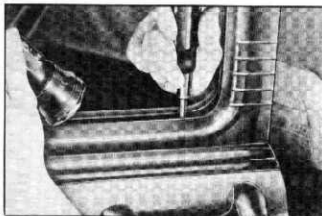

Fig. 46—1953 Free-Wheeling Adaptation
1. To adjust the free wheeling link on 1953 Chevrolet four-door styles, lower the rear door glass and insert a screw driver or suitable tool through the opening (fig. 46). The free wheeling link may then be adjusted as follows: